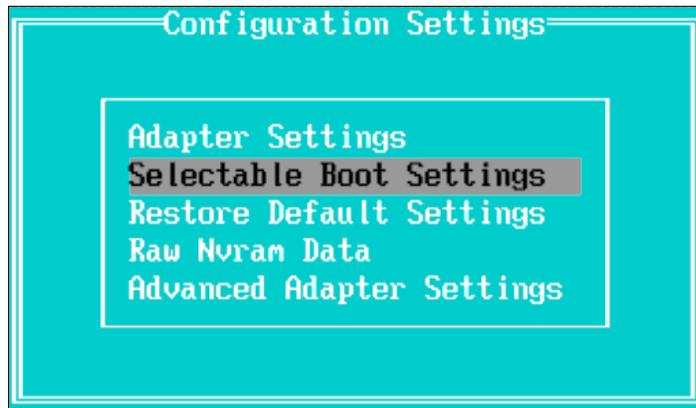

Figure 18-27 Accessing selectable boot settings
7. Press Esc to return to the Configuration Settings panel. Scroll to **Selectable Boot Settings** and press Enter, as shown in Figure 18-27.